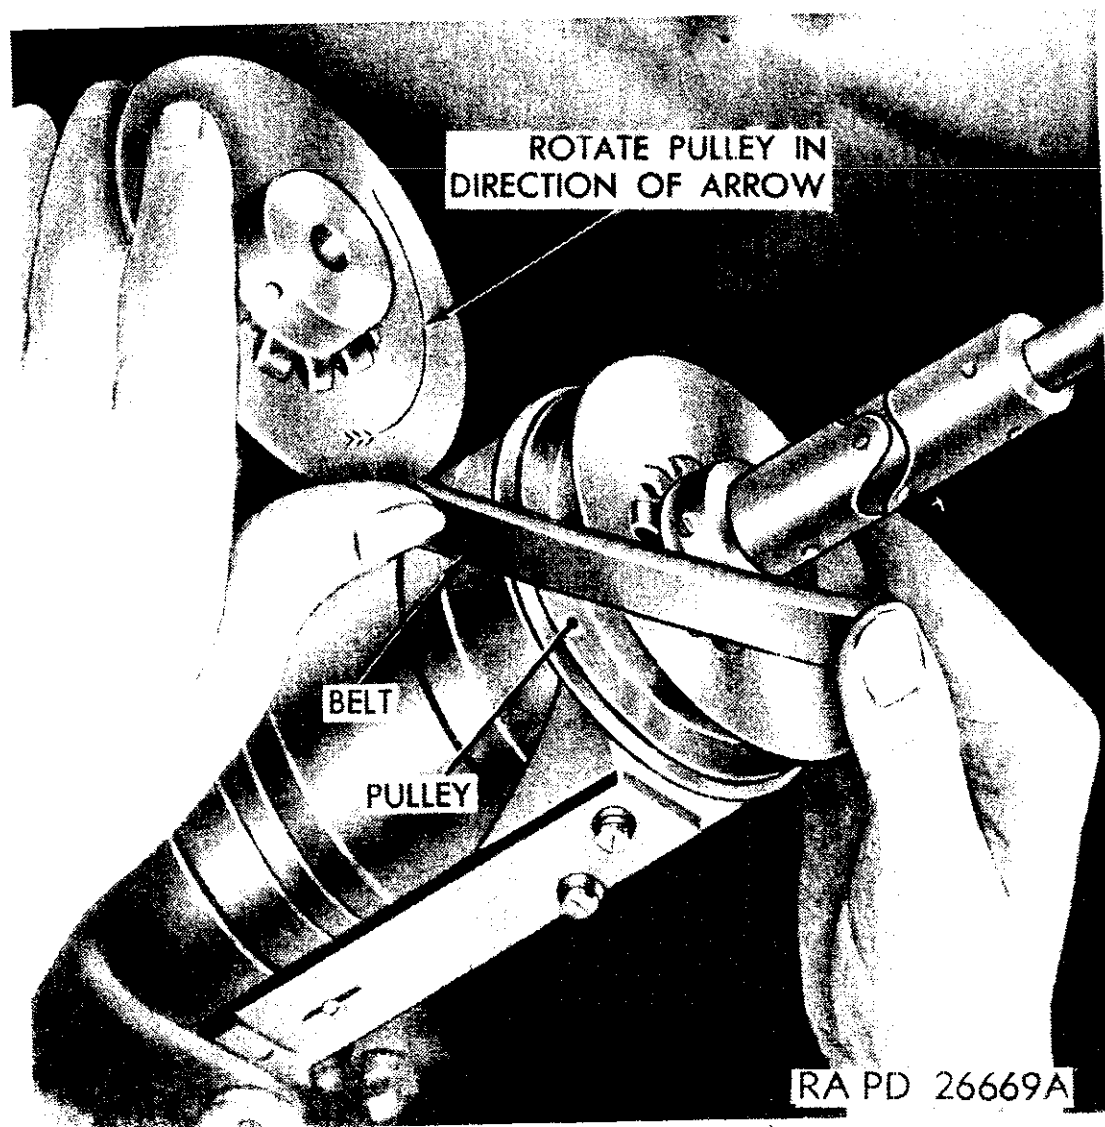

Figure 65. Removing "V" belt.
- (3) Position the mount and disengage the elevation coupling assembly from the elevation gear box in like manner.
- (4) Loosen lock nut on differential drive adjusting screw and turn screw to the left (counterclockwise), until it no longer moves differential inwards.
- (5) Lift belt over the outer half of one pulley and work down until it falls free; lift it off the other pulley (fig. 65).
- (6) If serviceable, mark belts so that they can be installed on the same pulleys from which they were taken.